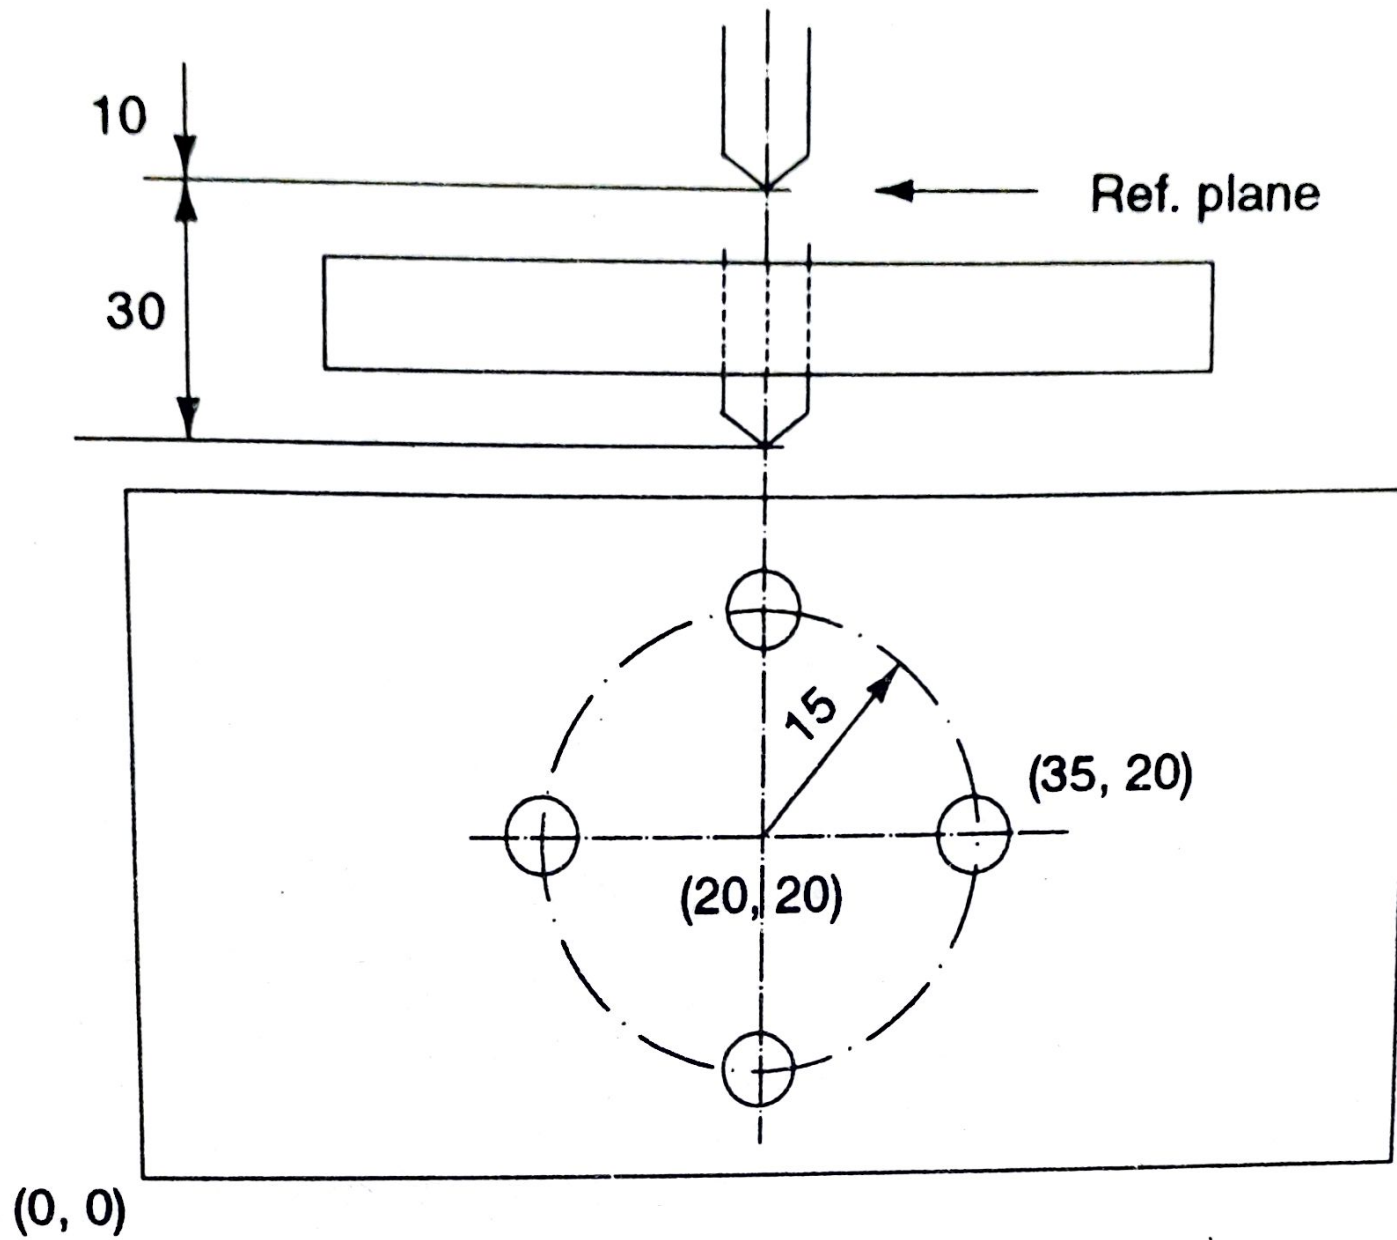

Fig. 6.6.
1. What is a subroutine? Write a subroutine for drilling a series of holes for the workpiece shown in Fig. 6.6.
2. What are the parameters required to define and use a 'Do loop' in a part programme. Write a part programme using Do loop for the workpiece shown in Fig. 6.6.